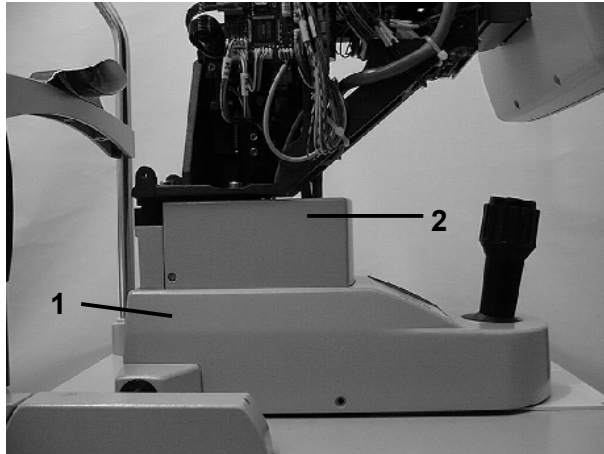

Fig. 27a
- Remove two covers ((1 and 2) Fig. 27a).
- Re-attach two covers ((1 and 2) Fig. 27a).